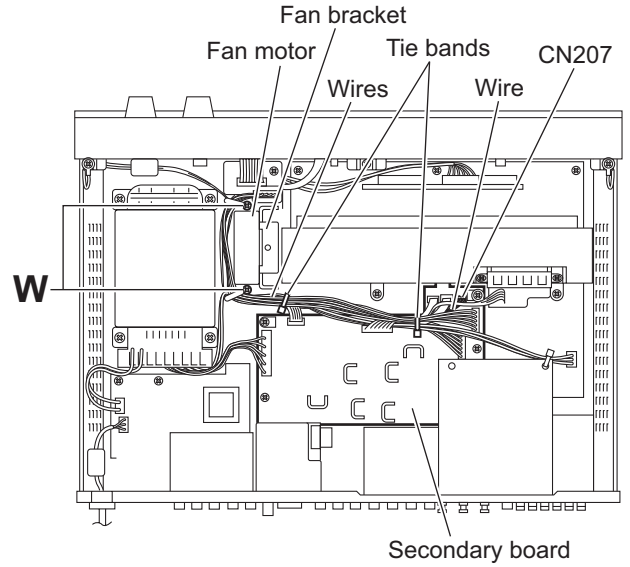
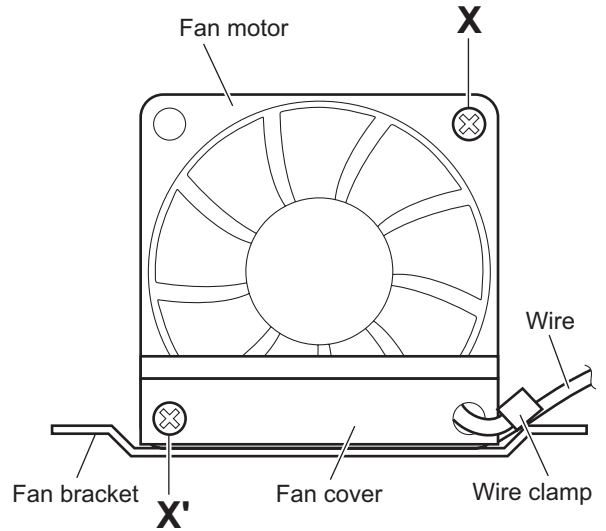

Fig.22
Fig.23
3.17 Removing the fan motor (See Figs.22 and 23)
- (1) From the top side of the main board, remove the tie bands bundling the wires. (See Fig.22.)
After reassembling, bundle the wires with the new tie bands as before. (See Fig.22.)
- (2) Disconnect the wire from the connector CN207 on the secondary board. (See Fig.22.)
- (3) Remove the two screws **W** attaching the fan bracket. (See Fig.22.)
- (4) Take out the fan motor with the fan bracket.
- (5) Remove the tie band bundling the wire. (See Fig.23.)
After reassembling, bundles the wire with the new tie band as before. (See Fig.23.)
- (6) Remove the screw **X** and screw **X'** attaching the fan motor to the fan bracket. (See Fig.23.)
When attaching the screw **X'**, attach the fan cover with it. (See Fig.23.)